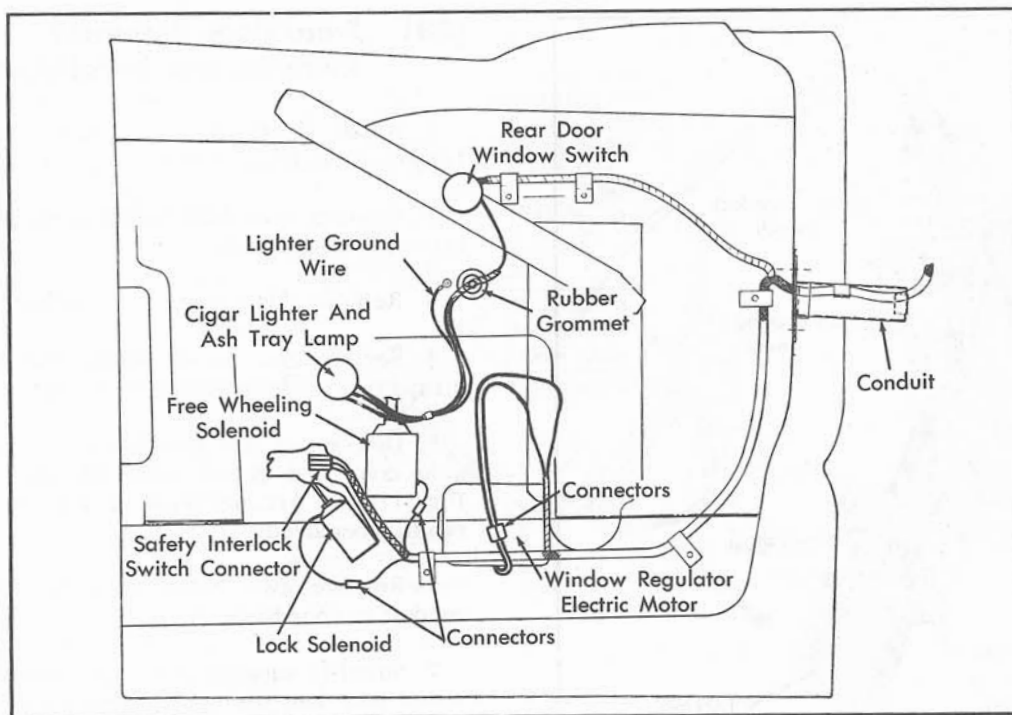

Fig. 17-27 Rear Door Wiring Harness Locations
2. Disconnect free-wheeling solenoid wire at connector, Fig. 17-27.